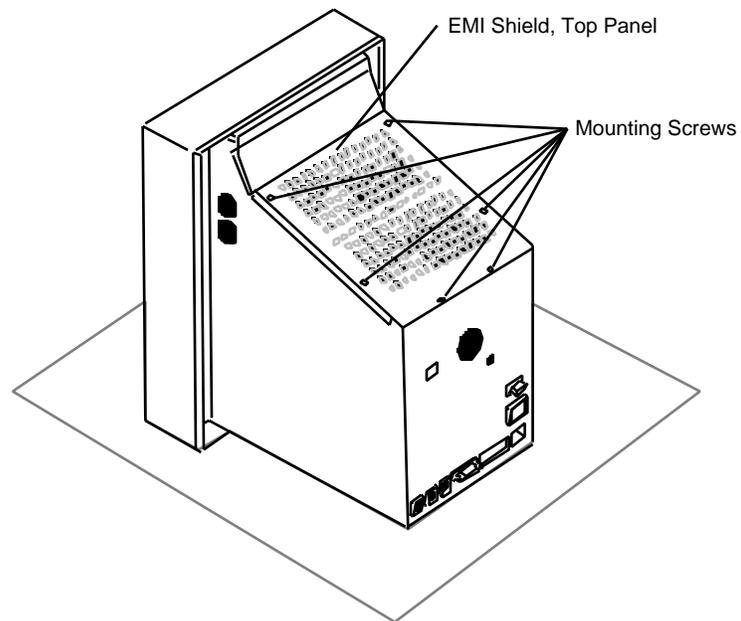

FIGURE 2
3. Remove the six screws that secure the top panel of the EMI shield to the chassis (Figure 2). Pull the top panel off the chassis.